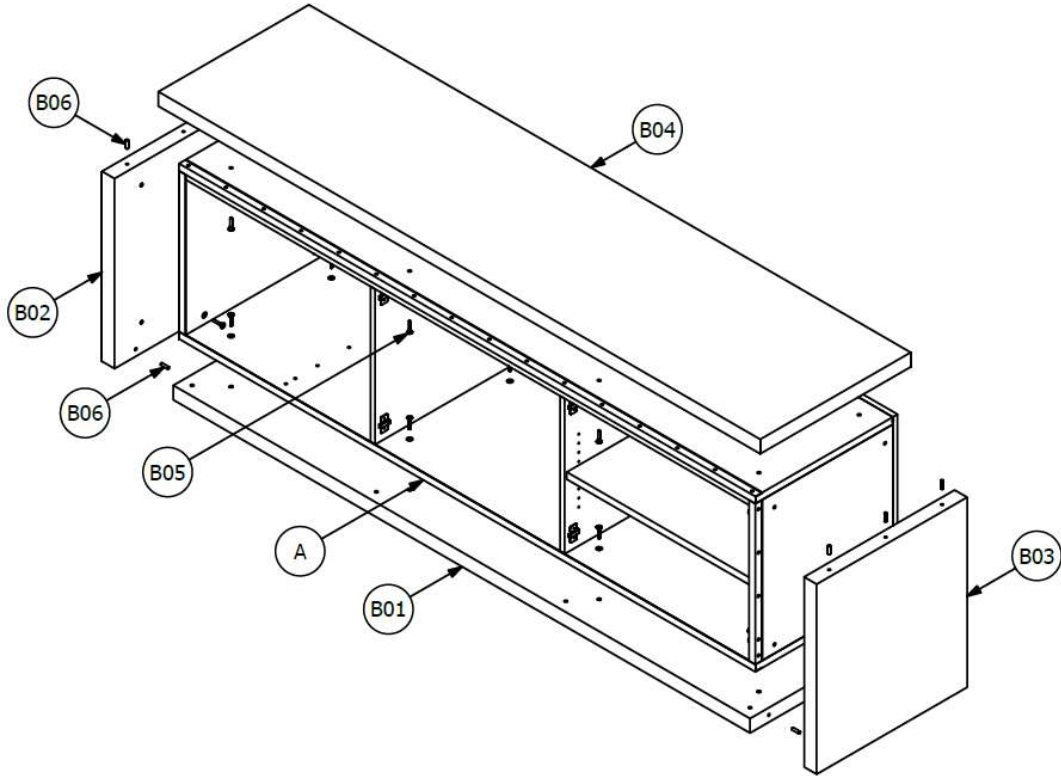

FIG. 03:
2. Place Case Assembly (A) onto Base Shroud (B01), positioned flush on ends and back. See Figure 03.
3. Using Furniture Bolt (B05), **LOOSELY** attach Case Assembly (A) to Base Shroud (B01). See Figure 03.
4. Insert Locating Dowels (B06) into pre-drilled holes on end edges of Base Shroud (B01). See Figure 03.
5. Using furniture Bolt (B05), **LOOSELY** assemble End Shrouds (B02 & B03) to Case Assembly (A). See Figure 03.
6. Insert Locating Dowels (B06) into pre-drilled holes on top edges of End Shrouds (B02 & B03). See Figure 03.
7. Using furniture Bolt (B05), **LOOSELY** assemble Top Shroud (B04) to Case Assembly (A). See Figure 03.